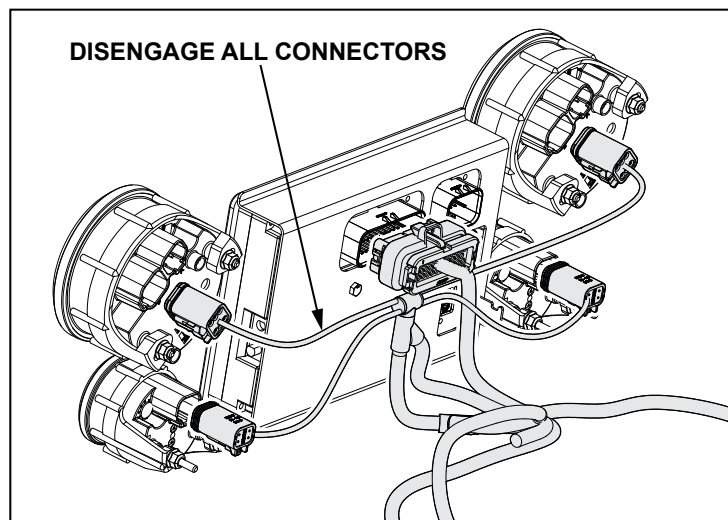

Figure 5
5. Working from the backside of the display pod assembly, disengage all connectors (see Figure 5).